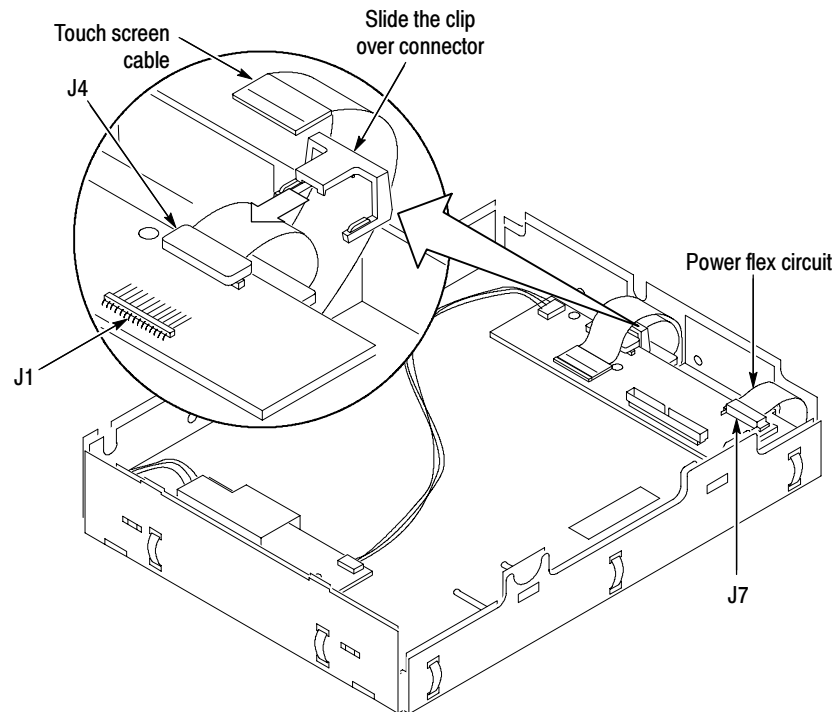

Figure 8: Cable clamp installation detail
- 10.** Connect the display cable to J4 on the Display Adapter circuit board. Slide the cable clamp (provided in this kit) over the cable and under the Display Adapter circuit board to secure the cable to the connector. See Figure 8.